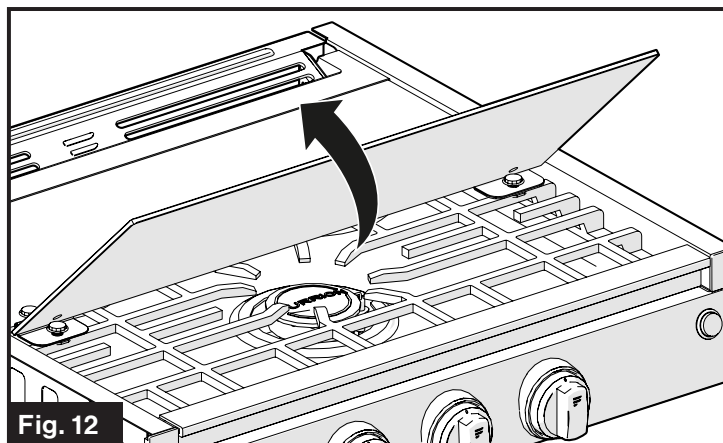

Fig. 12
1. Lift to open the cooktop top glass cover. (Fig. 12) The top glass cover must be kept open when lighting and using the cooktop.